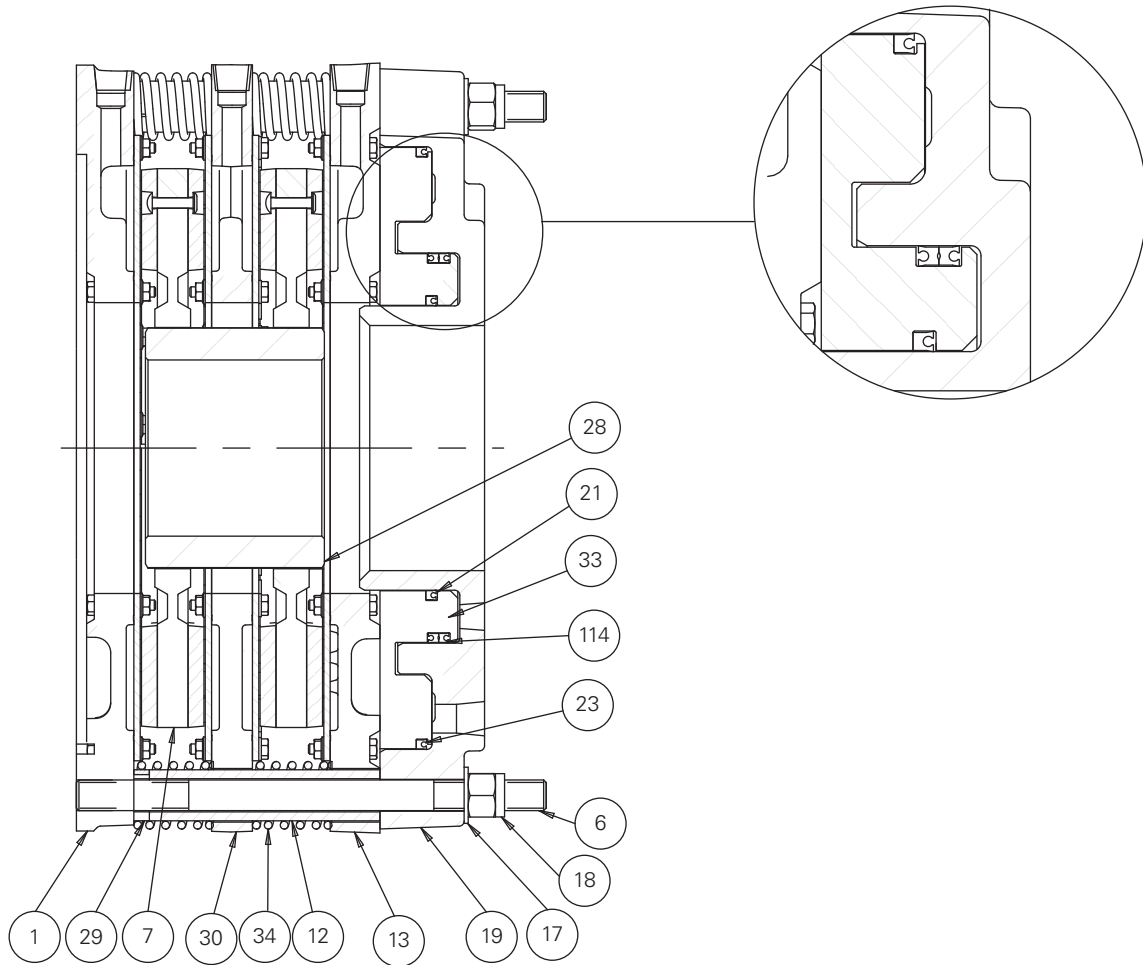

Figure 1
- 1.2.1 Referring to Figure 1, the operation of the Airflex WCBD brake assembly is identical to that of the Airflex WCB2 tensioner/brake with the exception of the dual chambered piston/cylinder power head assembly. In the WCBD brake assembly, air pressure is applied to either the inner, outer, or both sets of the ports in the dual cylinder (19), causing the dual piston (33) and pressure plate assembly (13) to move towards the mounting flange, compressing the release springs. As the applied pressure to either or both of pressure chambers increases, the friction disc(s) are clamped between the pressure plate and mounting flange, stopping or controlling the shaft that the discs are mounted upon. Modulation of air pressure then controls applied torque of the WCBD brake assembly. The inner cylinder/piston chamber area of the power head is referred to as the small cylinder/piston, and the outer cylinder/piston chamber area is referred to as the large cylinder/piston.
4.1.7 Remove the seals. Note how the lips of the Inner (21), Outer (23), and Intermediate (114) seals are oriented. Refer to Figures 1 and 2.
Note: Upon disassembly and inspection, a one-piece seal may be found for all intermediate seals (114) and on the inner (21) and outer (23) seals on sizes 18 and larger. These seals have since been superseded with two seals being installed 'back-to-back' as shown in Figures 1 and 2.
4.1.10 Install the new seals in the grooves in the piston, noting the orientation of the seal lips. See Figures 1 & 2.